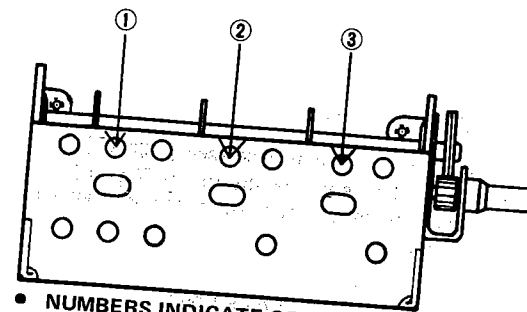

Fig. 8
8. Adjust trimmers of tuning capacitor indicated in Fig. 8 to obtain maximum VTVM reading.